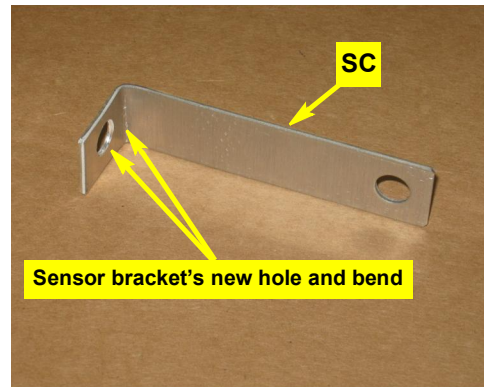

Figure 1b: Newly drilled/bent sensor bracket
- b. Drill a 3/8" hole in the sensor bracket **SC** at the opposite end from the sensor hole. Put a 90° bend in the end just drilled to 3/8" (Figure 1b).